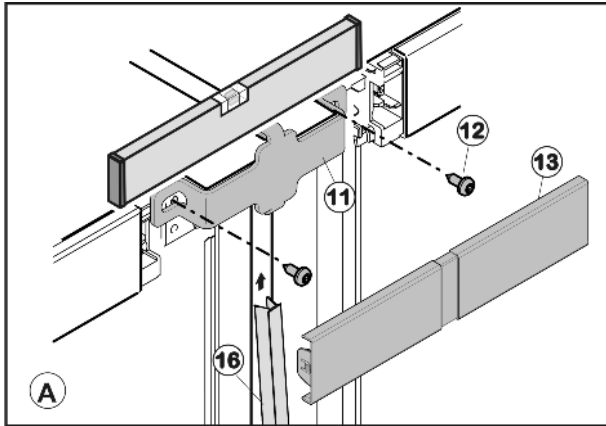

Fig. 46
- ▶ Secure upperconnecting element Fig. 46 (11) using two screws Fig. 46 (12). Make preliminary holes (optional) or use a cordless screwdriver.
- ▶ Clip on cover panel Fig. 46 (13).
- ▶ Fit strip Fig. 46 (16), push it slightly under the top cover Fig. 46 (13) and then press it downwards into the gap.